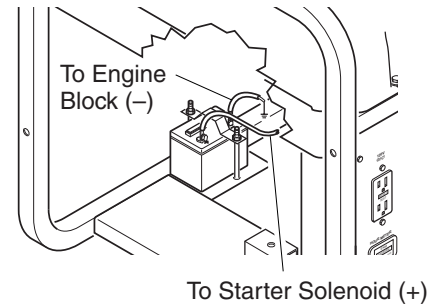

Figure 11 - MGH8500AIE - Connecting Positive and Negative Cables to Battery (Alternator Removed for Clarity)
2. Locate the red, positive (+) battery cable from starter solenoid. Connect it to the positive (+) battery terminal (see Figures 11 and 12).
3. Locate the black, negative (–) battery cable attached to engine block. Connect it to the negative (–) battery terminal (see Figures 11 and 12).